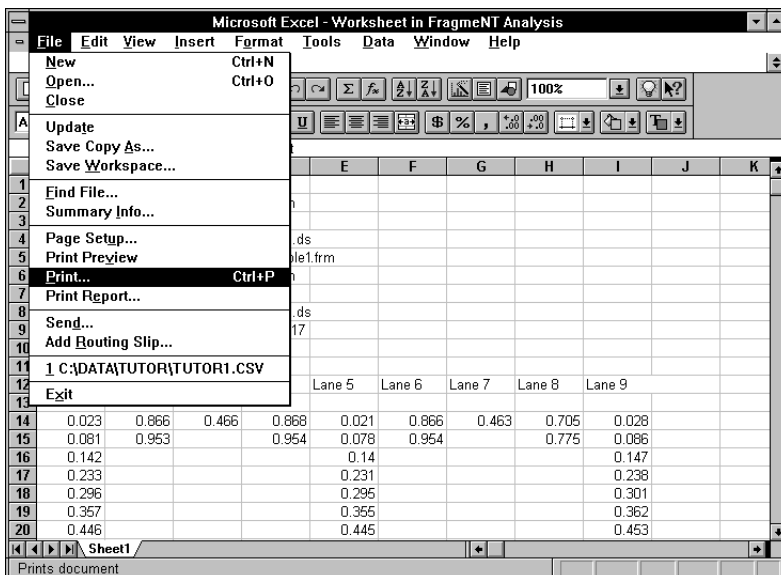

Figure 4-4. Printing the report from Excel.
6. Double-click in the Fragment Analysis Report window. Excel starts with your data in a worksheet (figure 4-4).
- **Printing the report from Excel**—To print the report from Excel, open the Excel **File** menu, and then select **Print** (figure 4-4). The Print window appears. In the Print window, select the print options (or accept the defaults), and then click **OK**. A message appears confirming that the report is being printed.